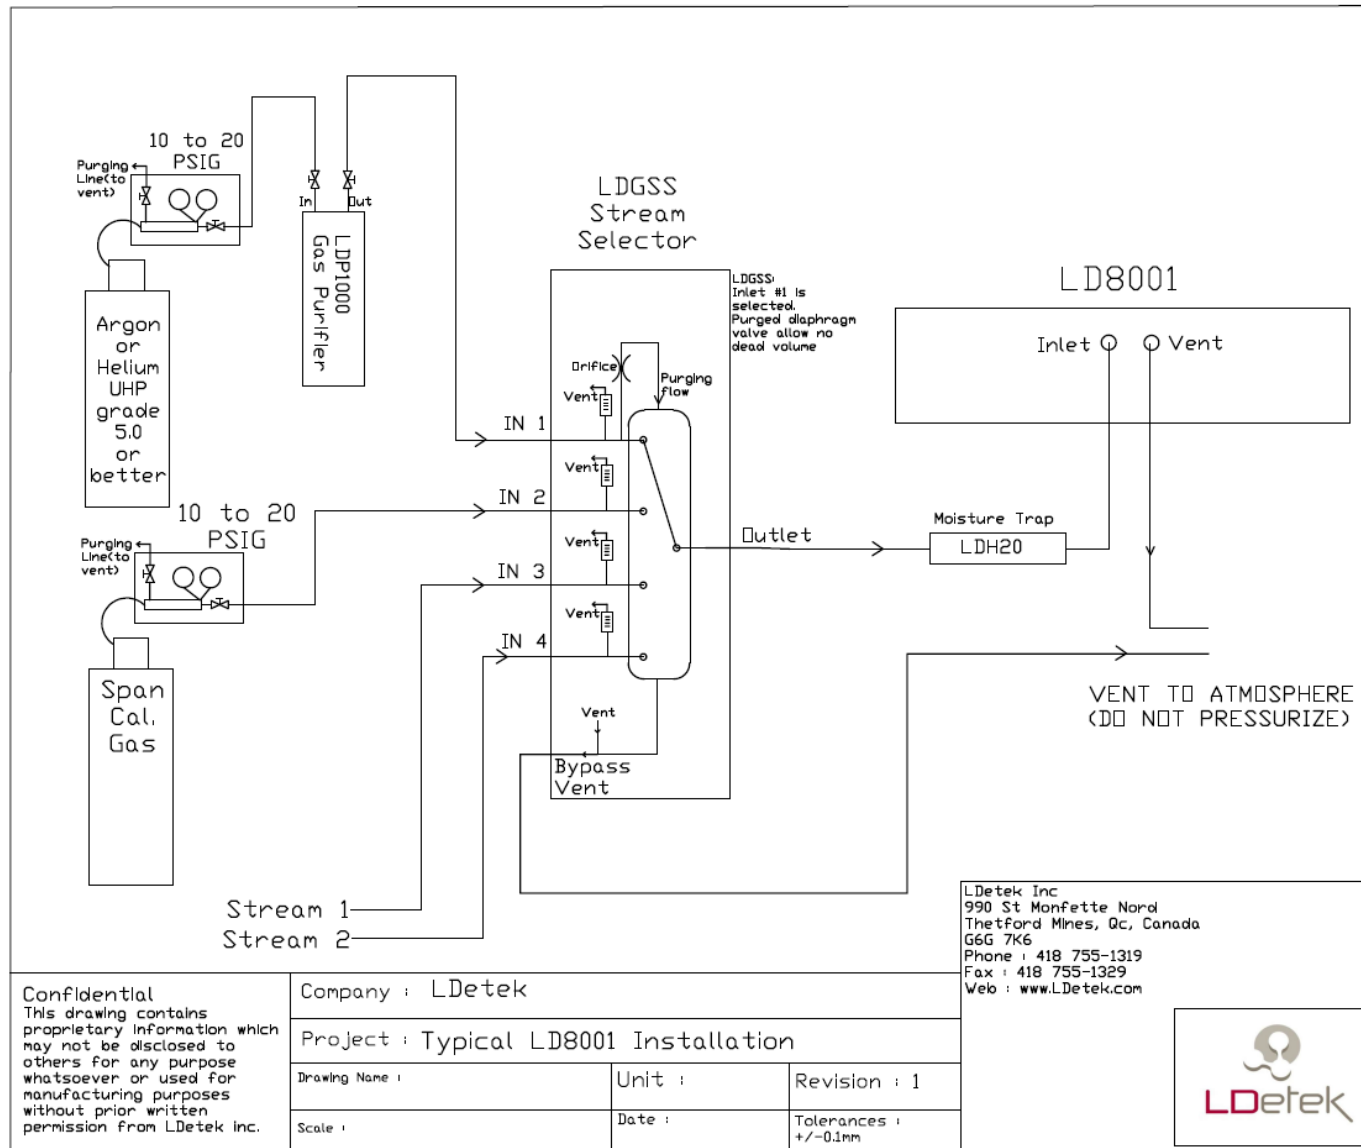
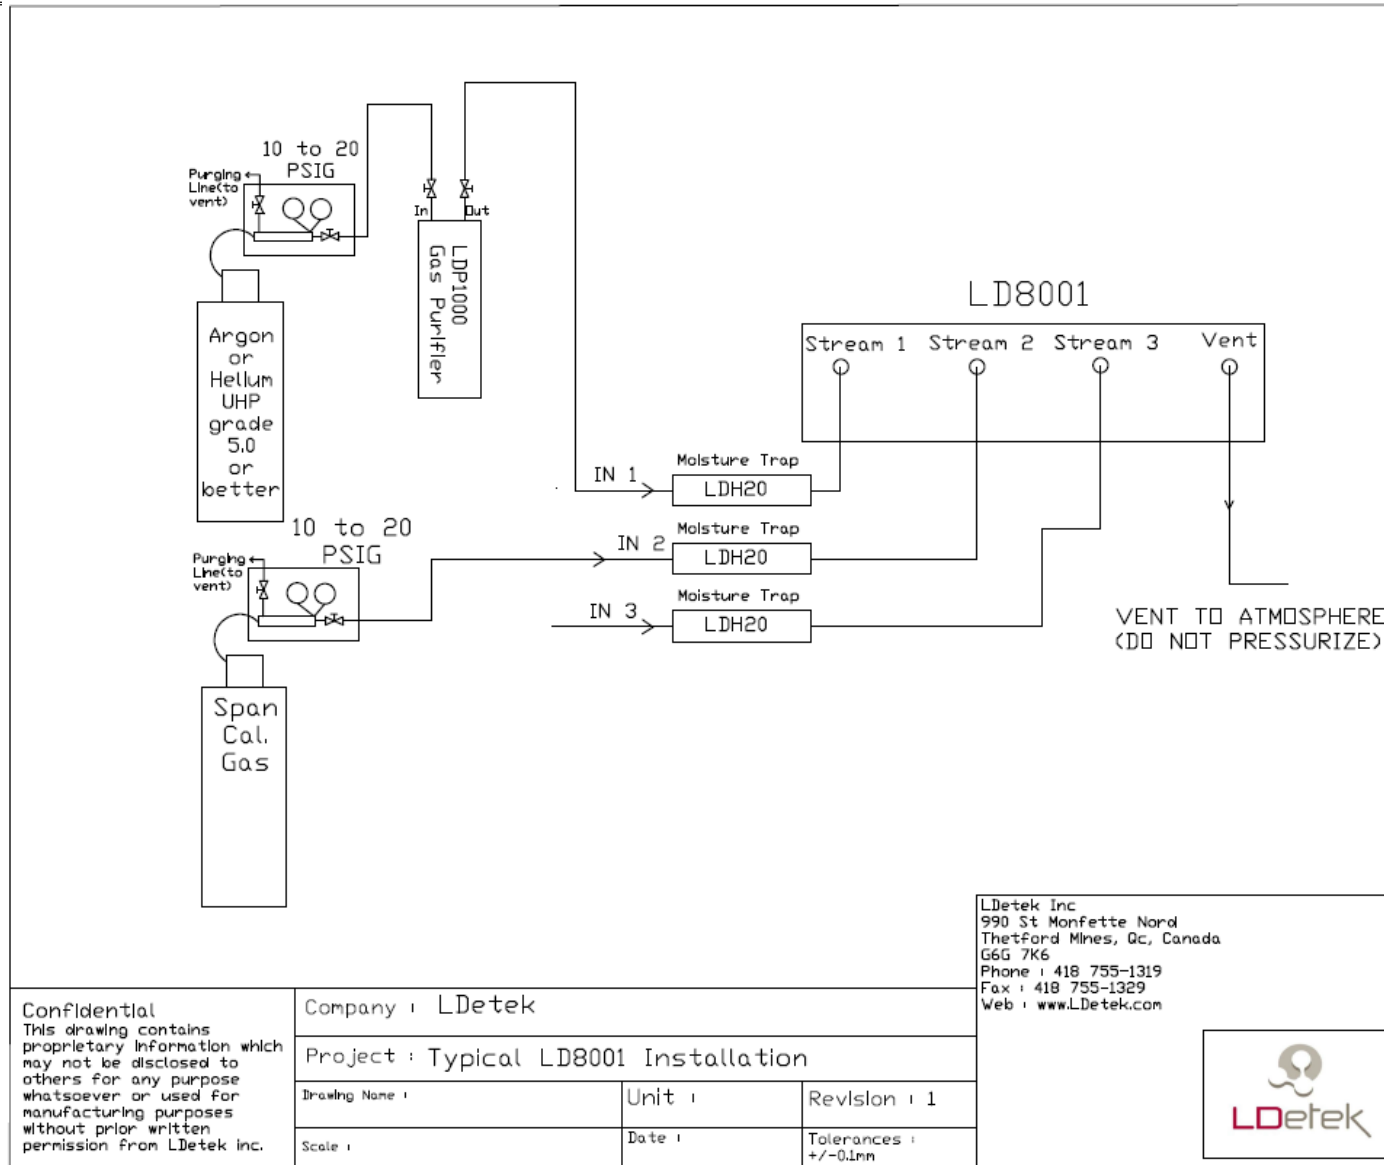
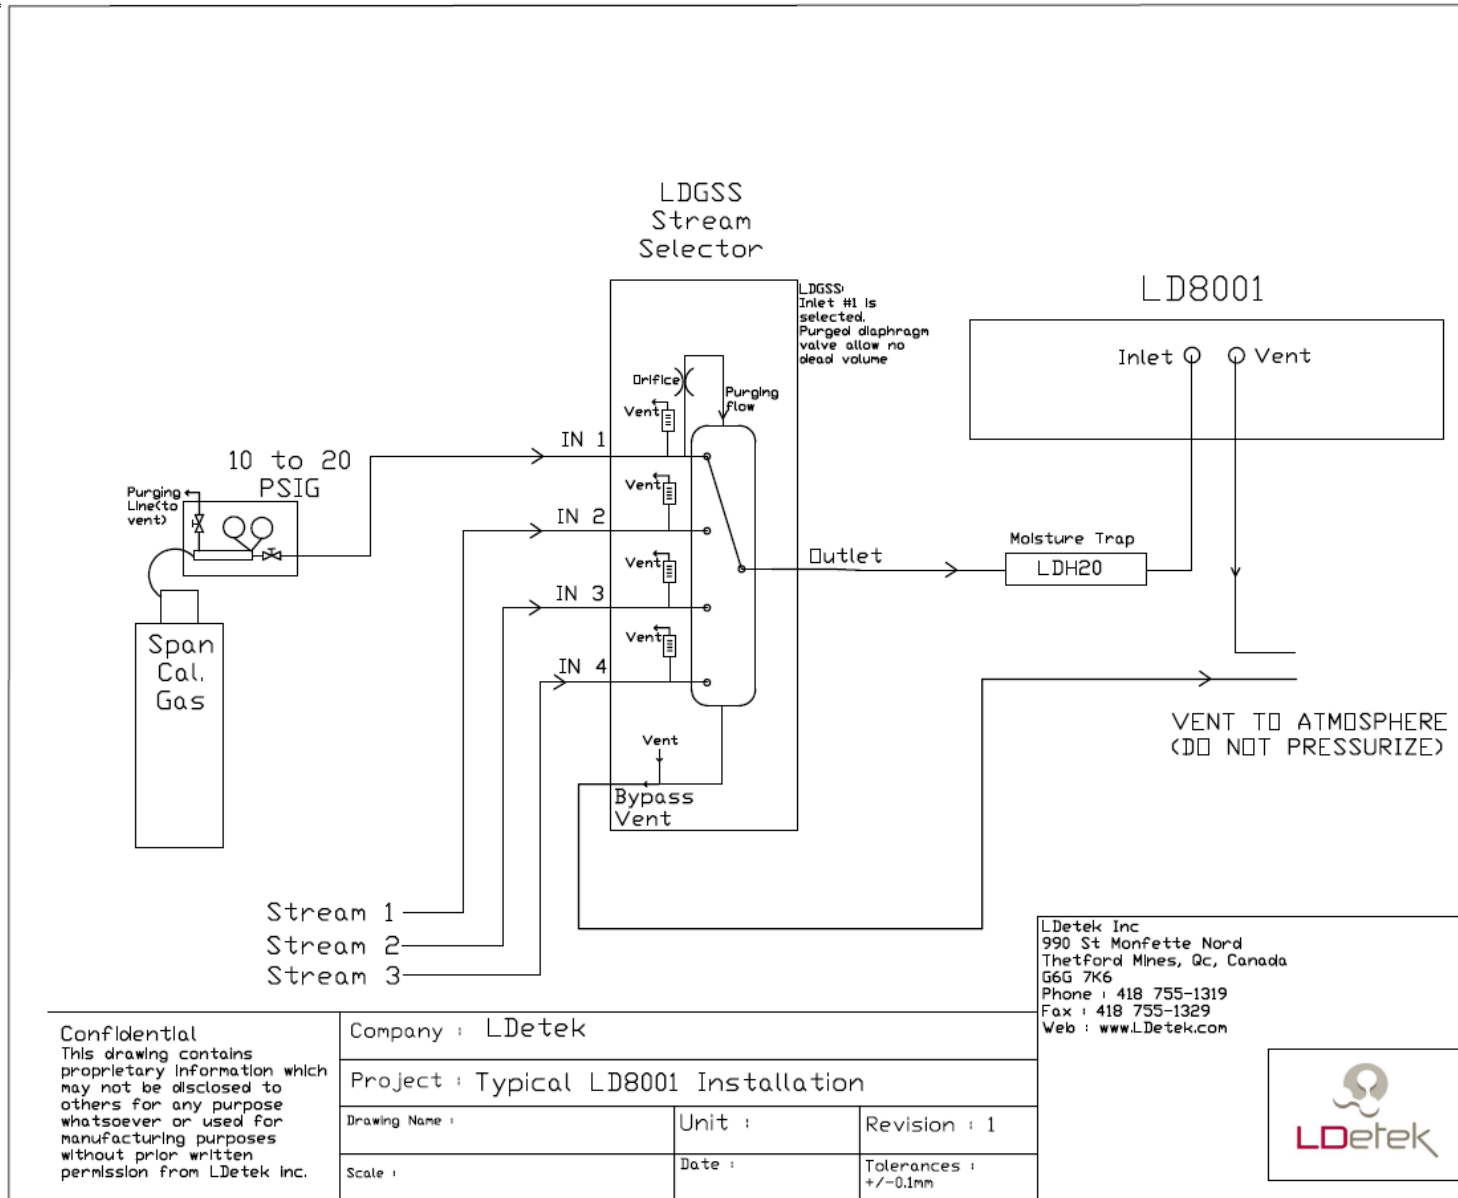

Figure 1: Typical Installation with LDGSS
Figure 2: Typical Installation with integrated stream selector
Figure 3: Typical Installation with zero gas free
7. **Make sure that the plug on the sample vent was removed** and connect the sample line to the sample inlet of the LD8001. Note that a moisture trap (LDT-H2O-50) must always be installed on the sample inlet as shown on Figure 1. This trap is consumable and must be replaced every year.
- span inlets. The moisture traps must be installed as per the drawing on Figure 2.
The installation will vary depending on the LD8001 model. For analyzer without integrated stream selectors, please refer to Figure 1. For analyzer with an integrated stream selector, please refer to Figure 2 and for analyzers with the zero-gas free option, please refer to Figure 3.